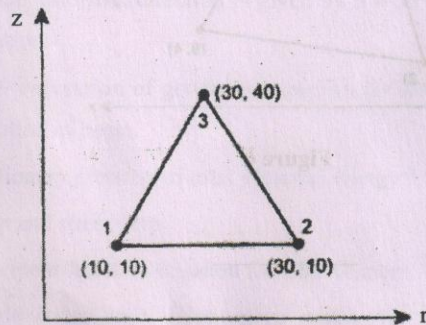

Figure 4
- (b) Derive the shape function for the constant strain triangular element. (16)
14. (a) The nodal co-ordinates for an axisymmetric triangular element are given in figure 4. Evaluate strain-Displacement matrix for that element. (16)